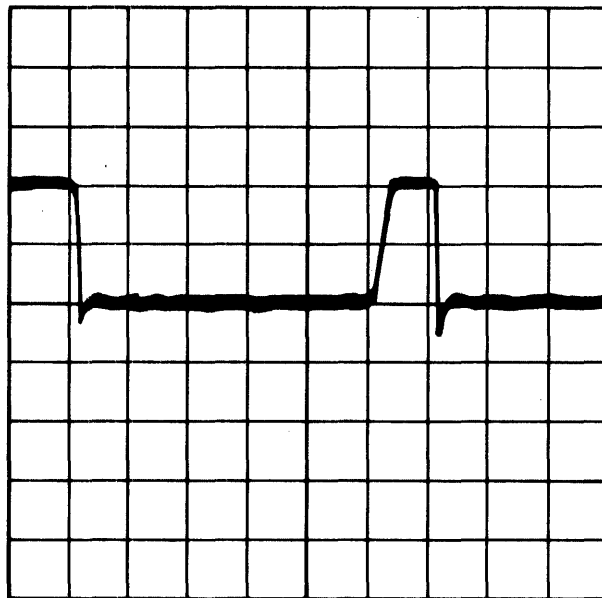

Figure 5-40. Data Separator Minimum
- K. Record the pulse width at this time. The display should appear as shown in Figure 5-40.